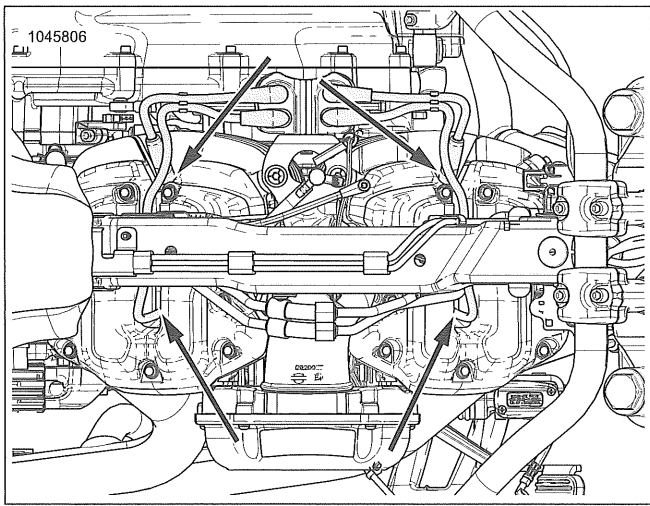

Figure 2-49. Spark Plug Location
1. See Figure 2-49. Remove spark plug cables from spark plugs.